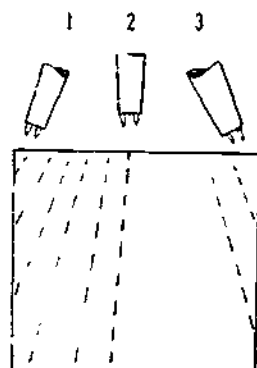

Figure 8-48. Cutting Thick Metals — Position of Tip
- Step 2. Hold the torch directly above the cutting line, beginning with the tip tilted opposite to the direction of travel. When the corner has been cut, hold the tip perpendicular to the work for the length of the cut and finally tilt toward the direction of travel to complete the cut through the terminal corner (Figure 8-48).